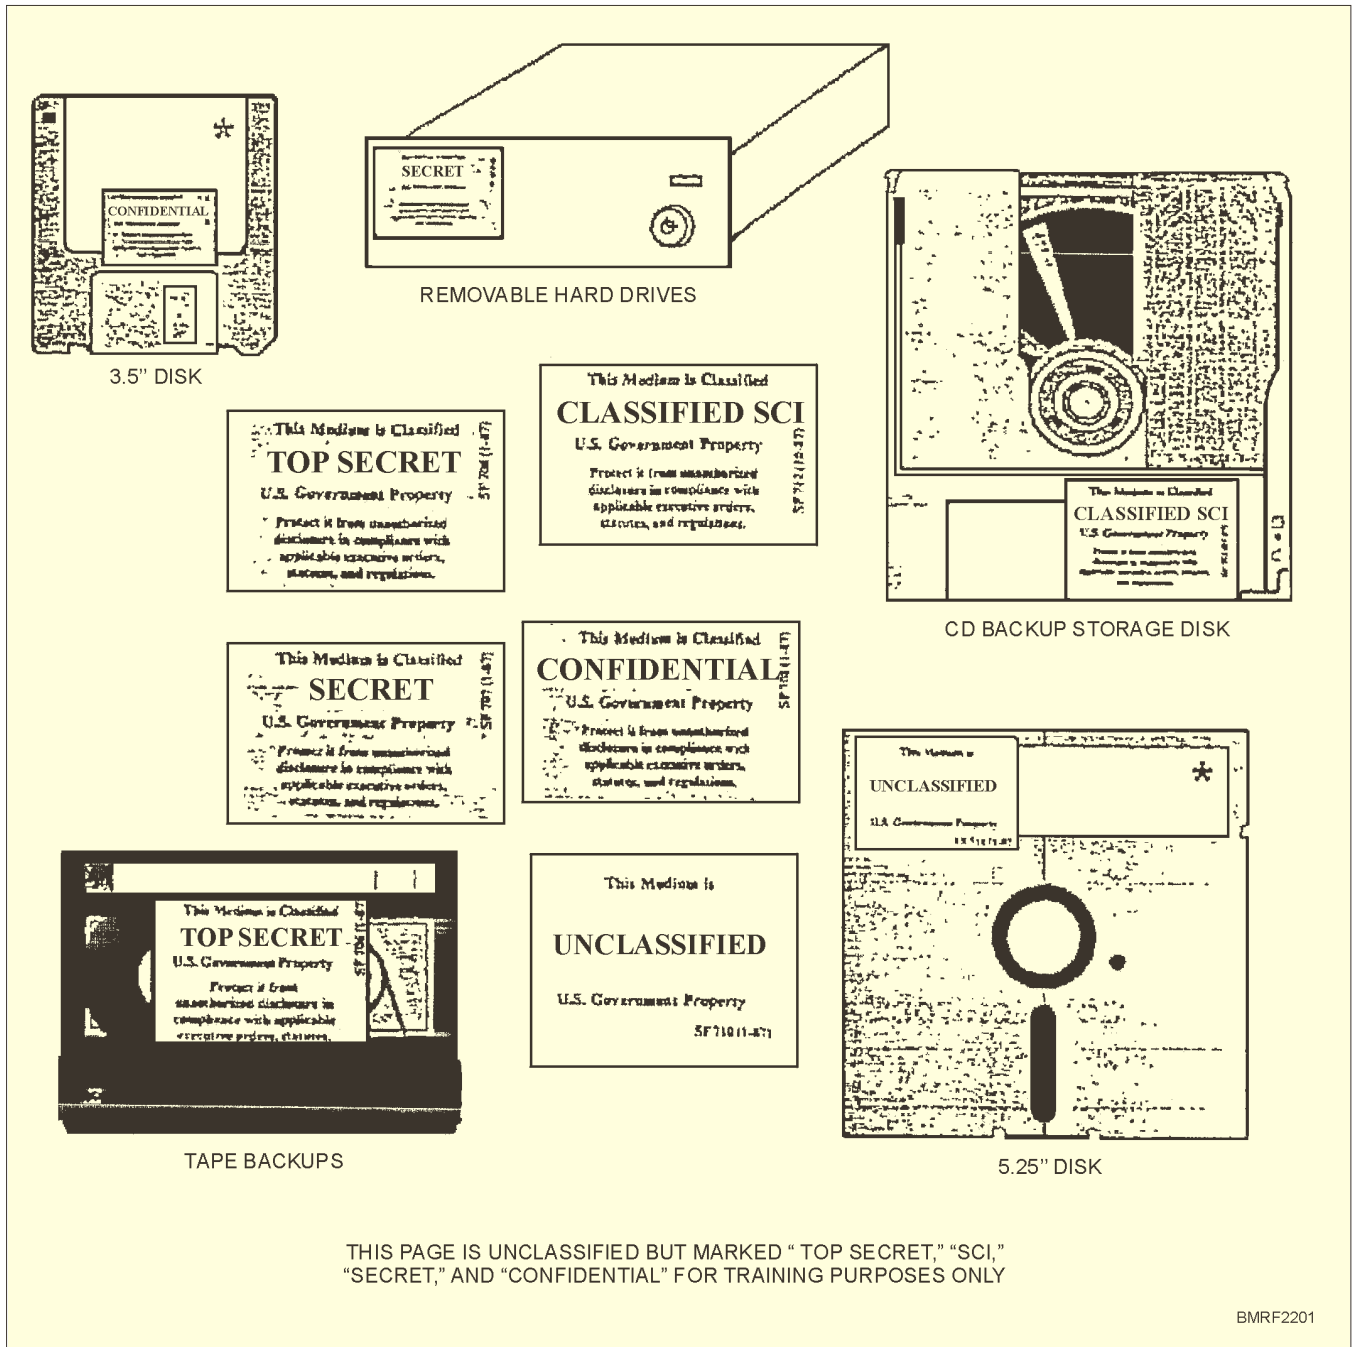

Figure 22-1.—AIS storage media.
**AUTOMATED INFORMATION SYSTEM (AIS).**—Removable AIS (fig. 22-1) storage media and devices used with AIS and word processors are marked using the appropriate SF label to indicate the highest overall classification level of information contained in the storage media.
Disks (see fig. 22-1) are marked with stick-on labels that identify the overall security classification and permanently assigned identification numbers.